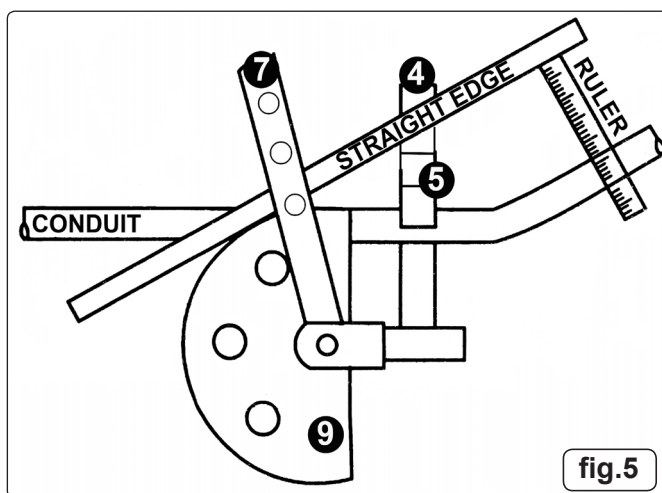

fig.5
- 4.5.2 Place the bend in the machine as shown in fig.5. Place a straight edge against the outer edge of the former (9) and parallel to the bend. Adjust the conduit in the machine until the required measurement is obtained.